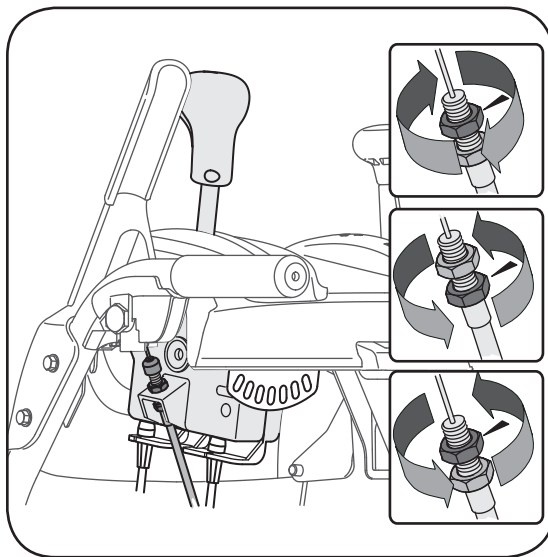

Figure 14
3. Repeat on the other cable adjuster until the chute assembly has full range from left-to-right. See Figure 14.